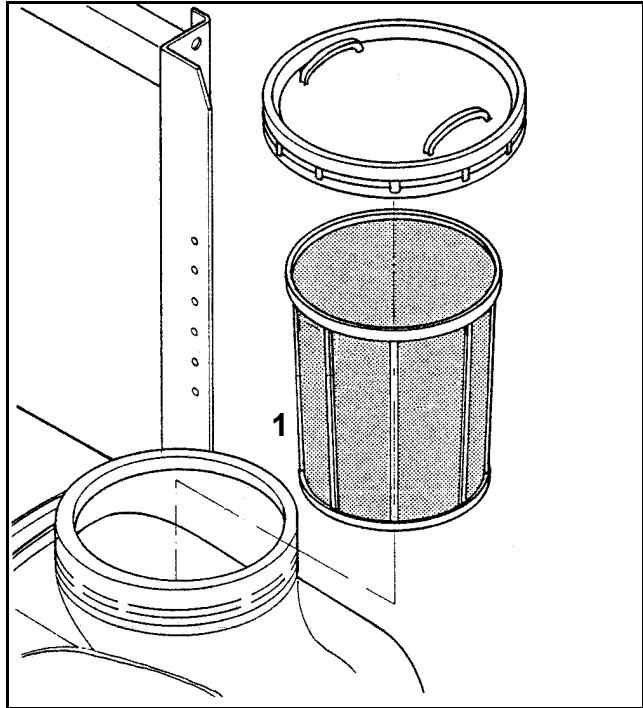

Fig. 29
- Always use the filling sieve (Fig. 29/1) when filling the spray agent tank.